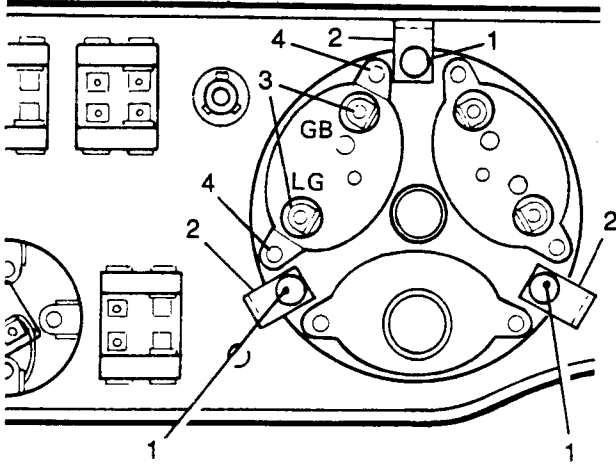

Fig O5.25
- (2) Refer to Fig O5.25. Remove the three knurled nuts (1) at the grouped instruments clamp brackets (2).
- (3) Withdraw the three earth lead eyelets and shakeproof washers.
- (4) Withdraw the grouped instrument clear of the instrument panel.
- (5) Disconnect the 'Lucar' connectors (3).
- (6) Remove the fixing screws (4) and withdraw the gauge.